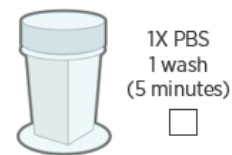

Figure 22: Wash for 5 minutes in 1X PBS
9. After nuclear stain incubation, **remove slides one at a time** from staining tray, gently tap slide on a clean Kimwipe to remove excess buffer, and **transfer slide to 1X PBS** (Figure 22).